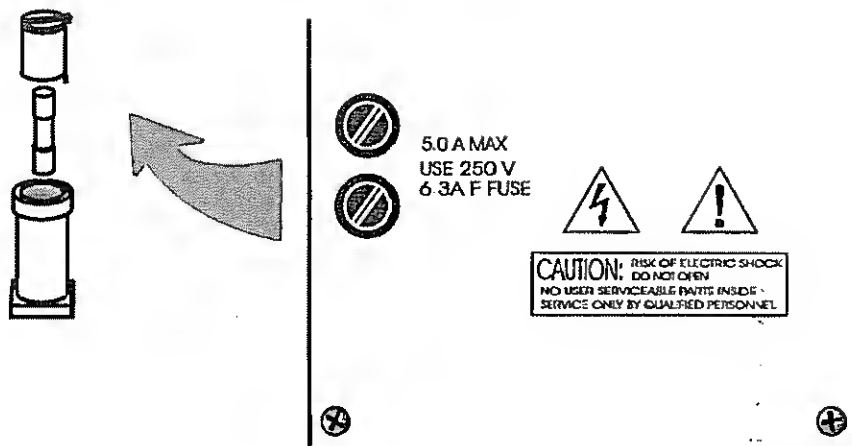

Figure 4-1: Removing Fuse Block Cap and Fuse from Housing
2. Place a small screwdriver in the notch in the fuse holder cap, push in, and rotate 1/4 turn. The cap will pop out a few millimeters. Pull out the fuse cap and fuse, as shown in Figure 4-1